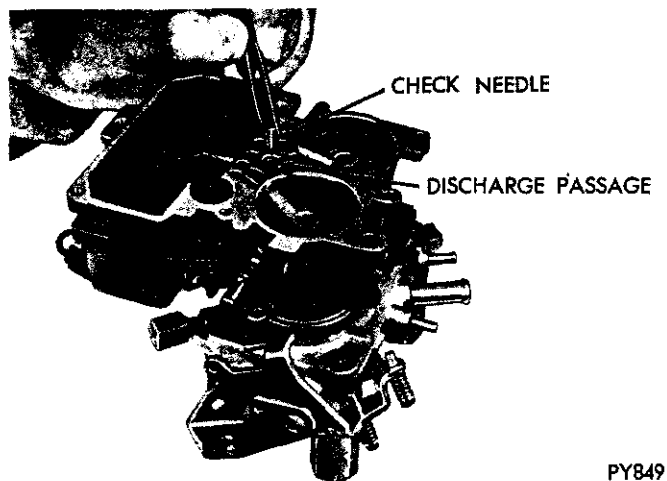

Fig. 15—Installing Accelerator Pump Discharge Check Needle
(18) Invert main body and drop out accelerator pump discharge check needle from discharge passage (Fig. 15).
(2) Install accelerator pump discharge check needle in discharge passage. (Fig. 15). Check accelerator pump, fuel inlet and discharge systems as follows:
(3) Pour clean gasoline into fuel bowl, approximately 1 inch deep. Slide accelerator pump plunger into cylinder. Raise plunger and press down lightly on plunger stem to expell all air from pump passage.
(8) Install accelerator pump discharge check needle in pump discharge passage. (Fig. 15).